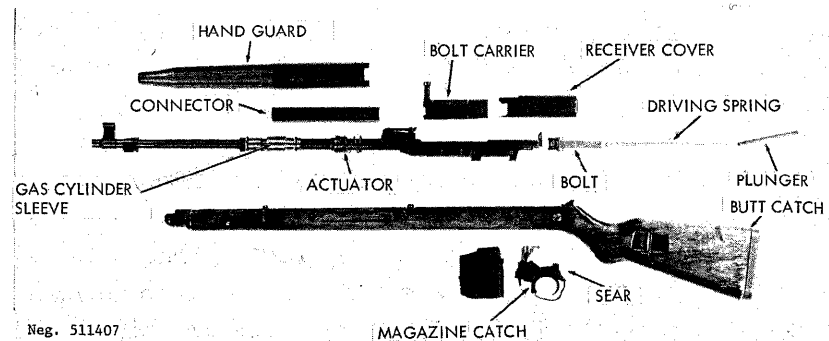

Figure 107. Vz52 field stripped.
(1) Clear the weapon (para 119g), but do not replace the magazine. Set the safety on safe by pressing it to the rear.
(2) Force the receiver cover (fig 107) forward as far as possible; press in on the plunger protruding from the rear of the
(8) Hold the gas cylinder sleeve (fig 107) in place and force the connector as far to the rear as possible until it can be lifted away from the gas cylinder sleeve. Pull the connector forward out of the actuator (fig 107). The gas cylinder sleeve can be moved to the rear for cleaning.
a. The Vzor 52 and Vzor 52/57 rifles are identical in their functioning. The rifles are gas operated; however, they employ an unusual concentric gas cylinder that surrounds the barrel. The gas mechanism is composed of a bearing mounted on the barrel, with a gas port drilled through it into the barrel. A sliding gas cylinder sleeve is positioned over the bearing and is connected to the actuator by means of a sheet-steel connector (fig 107).
b. When the rifle is loaded and cocked, pressure on the trigger releases the hammer, which impacts against the firing pin and fires the rifle. The propellant gases drive the bullet through the barrel; after the bullet passes the gas port, some of the gases are tapped off and expand between the rear of the barrel bearing and the gas cylinder sleeve. The sleeve is forced to the rear, and this motion is transmitted through the connector to the actuator. The actuator, by means of projections that pass through the sides of the receiver, forces the bolt carrier rearward. This movement of the carrier compresses the driving spring and rocks the hammer to the rear. As the carrier continues rearward, cams on the inner sides of the carrier mate with the lugs on the bolt and lift the front end of the bolt out of its locking recess in the receiver. When the bolt is completely unlocked, it and the carrier travel to the rear as one unit. The actuator, connector, and gas cylinder sleeve are returned forward by a spring pressing against the actuator (fig 107).